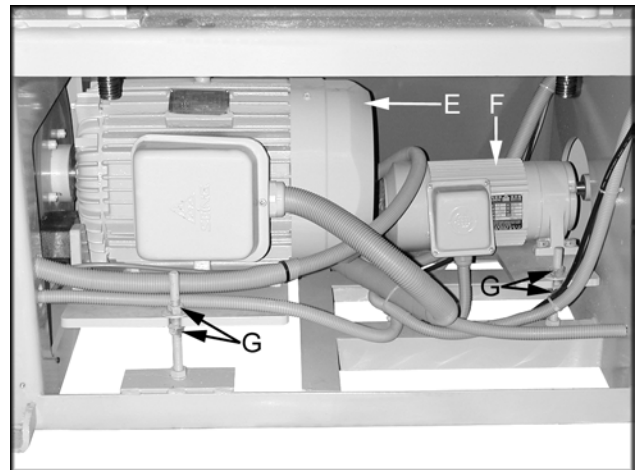

Figure 20
2. Gain access to main motor (E, Figure 20) and the table raising motor (F, Figure 20).
3. Loosen bottom nuts (G, Figure 20) and lower motors to increase belt tension. Tighten the upper nuts.
4. Loosen upper nuts (G, Figure 20) and tighten lower nuts to raise the motors to decrease belt tension.
3. Loosen upper nuts (G, Figure 20) and tighten lower nuts to raise the motors to decrease belt tension.